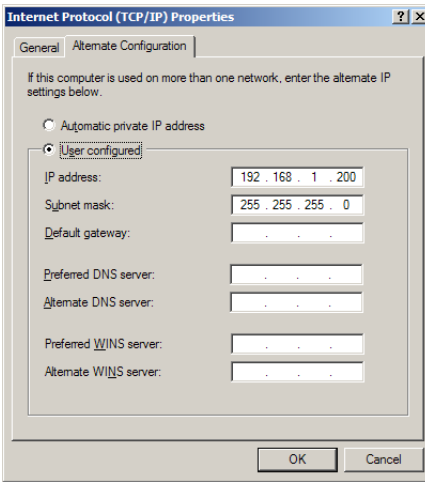

Figure 6-5 Alternate Configuration Settings
5. Select the Alternate Configuration tab. Click the “User Configured” option. See Figure 6-5.